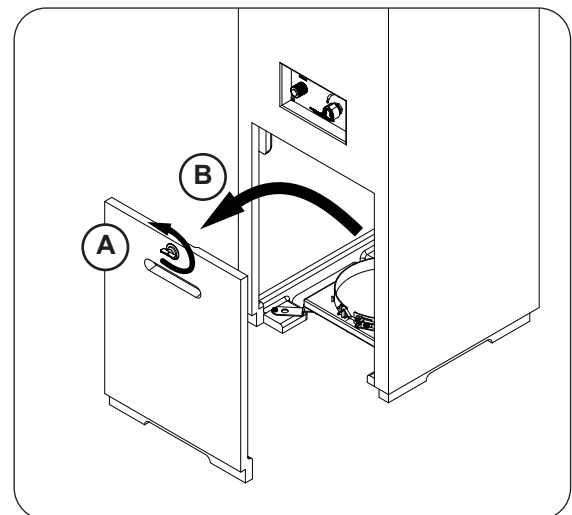

Fig. 20-2 Remove door
1. Remove the storage door by first turning the door handle counter-clockwise, then carefully pulling the door outward (see Fig. 20-2). Store in a safe location.